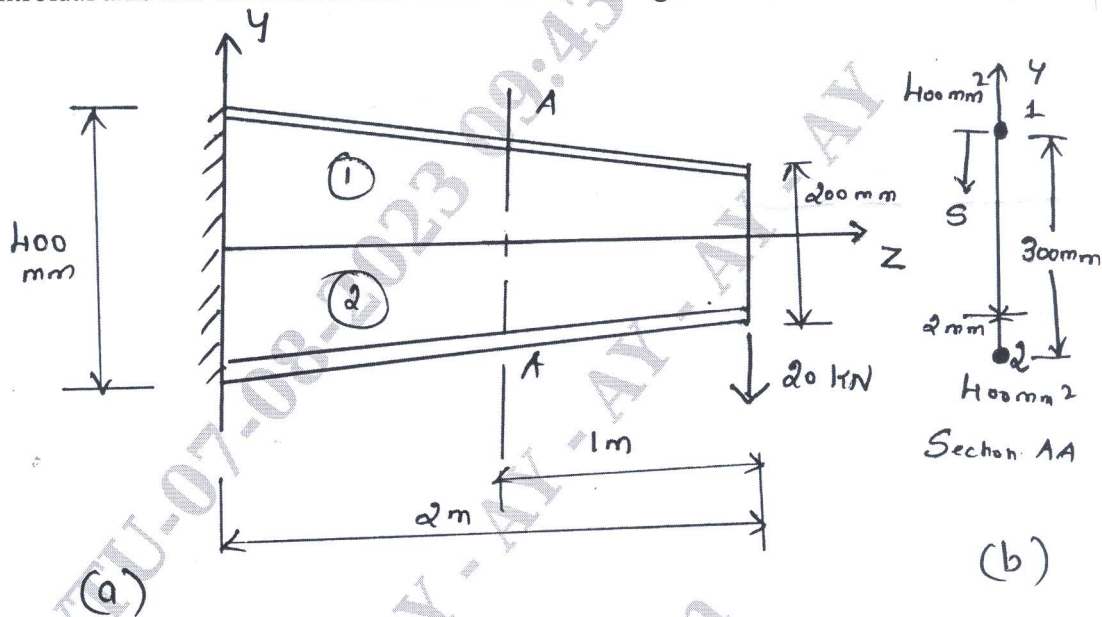

Fig.Q7
- 7 Determine the shear flow distribution in the web of the tapered beam shown in Fig.Q7, at a section midway along its length. The web of the beam has a thickness of 2mm and is fully effective in resisting direct stress. The beam tapers symmetrically about its horizontal centroidal axis and the cross sectional area of each flange is  $400 \text{ mm}^2$ . (16 Marks)